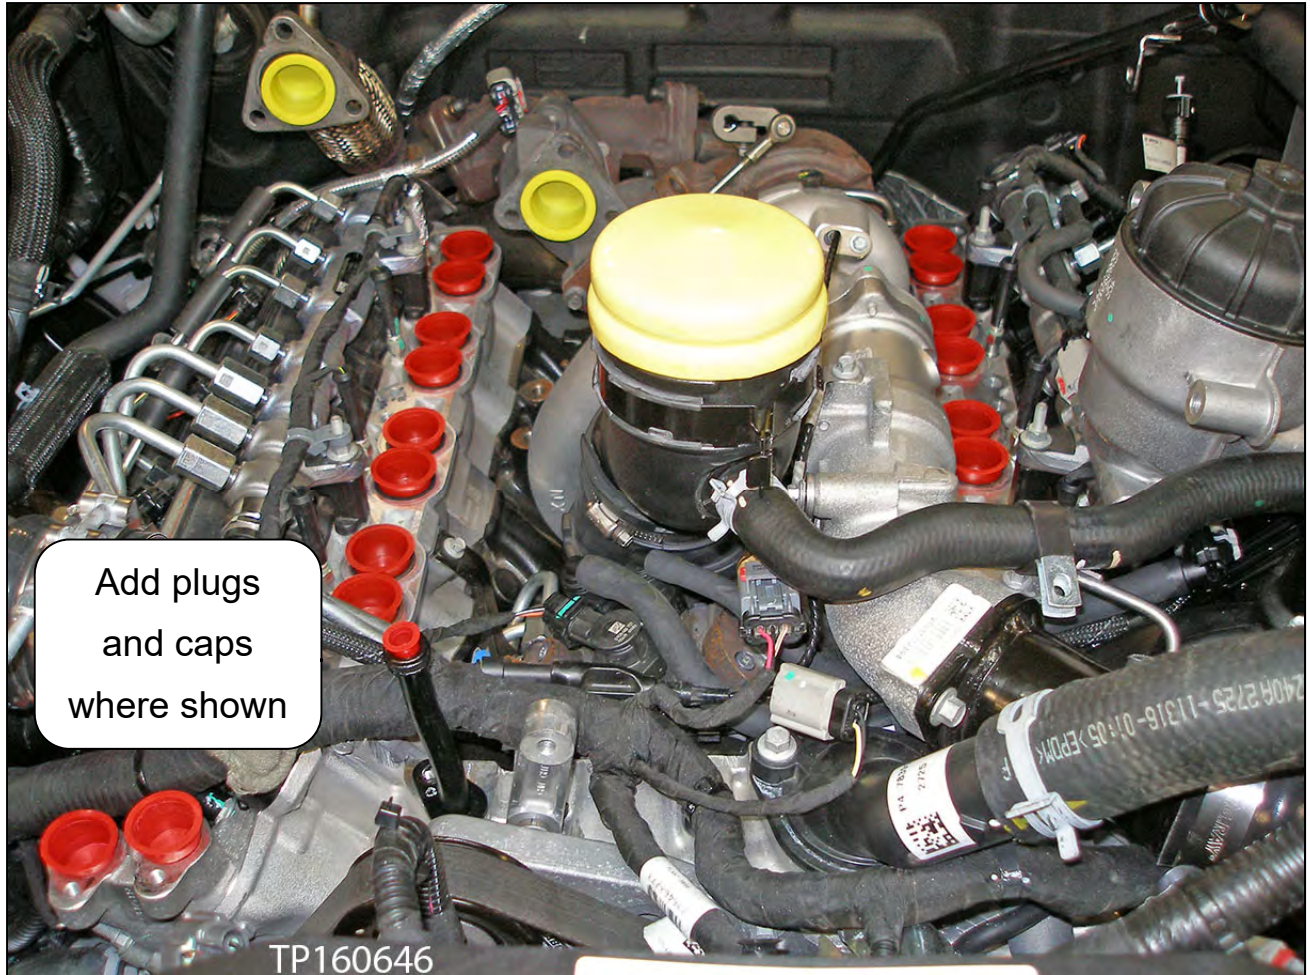

Figure 43
29. Remove any remaining intake manifold gaskets, and then install the plugs and caps (yellow and red colored) where shown in Figure 43.